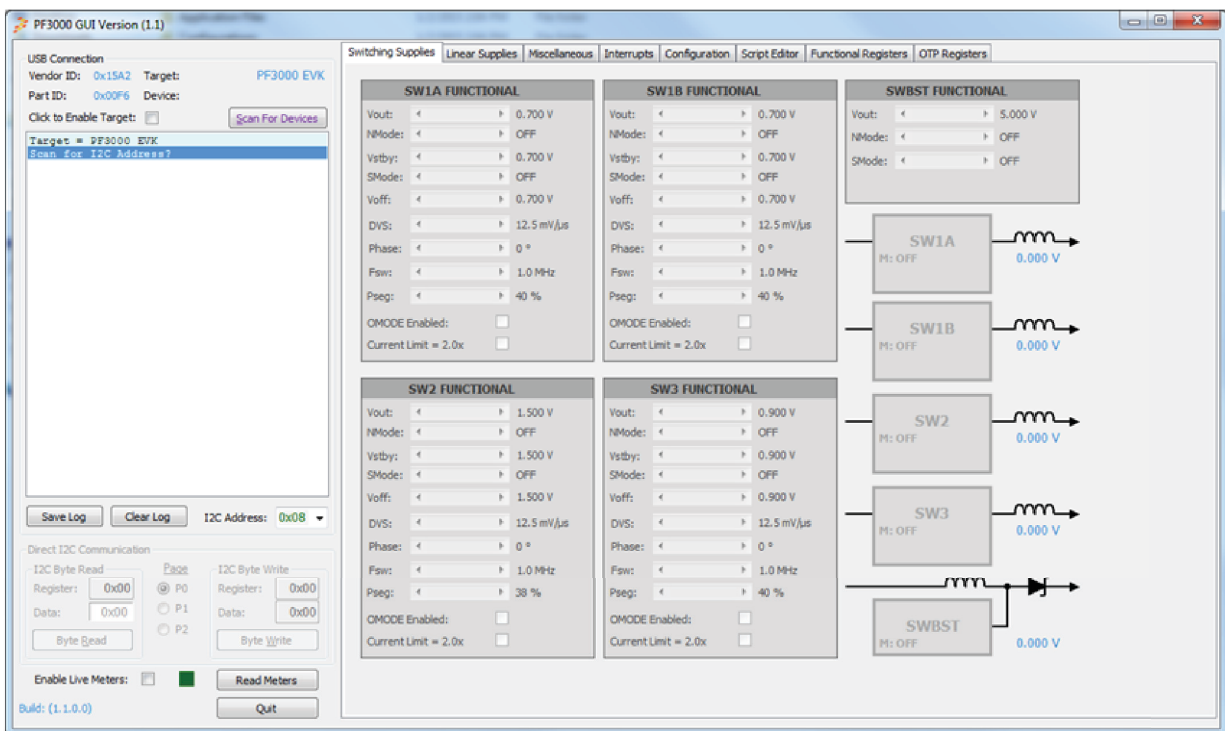

Figure 4. Installation Confirmation
4. The GUI installation is complete and the window shown in Figure 4 appears. Do not click on anything until the board is plugged in.